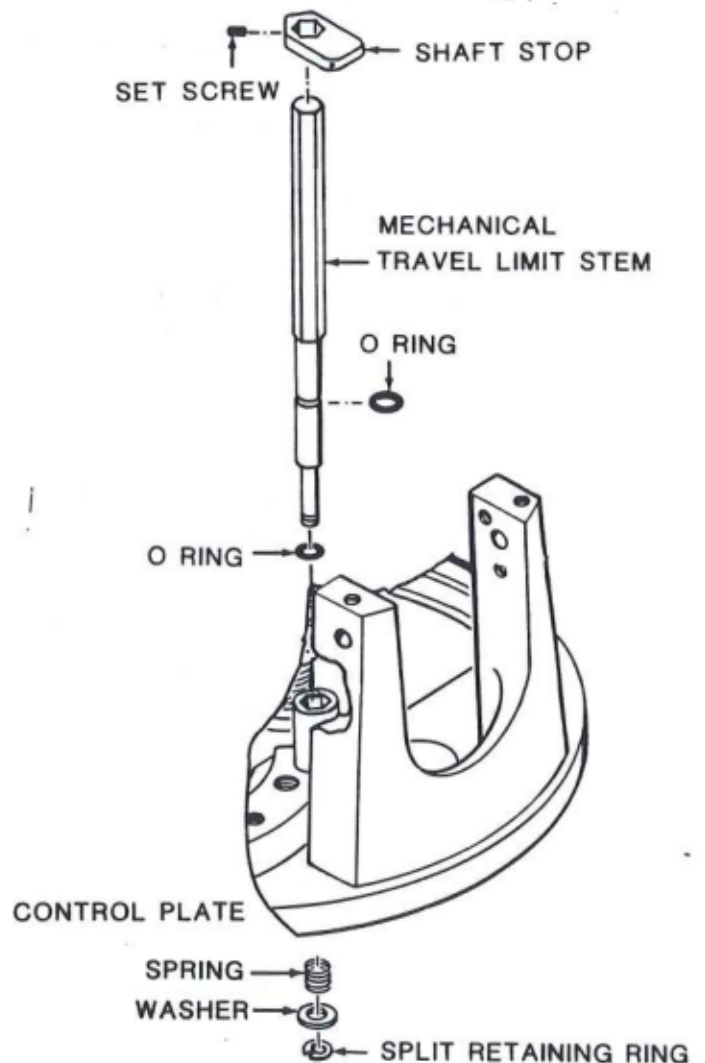

Figure 2-14. Mechanical Travel Limit Device
- 4). Remove the split retaining ring from the end of the mechanical travel limit stem (see Figure 2-14).
- 2). Install two new O-rings onto the mechanical travel limit stem (see Figure 2-14). Insert the stem into its receptacle on the control plate. Fit the spring and brass washer onto the stem from the bottom of the control plate and secure with the split retaining ring.
- 3). Carefully install the large control plate O-ring (2) in the groove at the top of the housing.
- 4). Place the four small O-rings (3) in the housing bolt holes. Do not get oil on this large O-ring or the four small O-rings (giving the appearance of a leak).
- 6). Install the control plate (606) and secure it with four 1/4" hex head cap screws (605).
- 8). Insert a small wire up from the electrical compartment through the small mA force coil wire hole at Terminal Block No. 3 (633). Form a small hook on the end of the wire, then pull the black and white mA wires down through the hole. Before disconnecting the hook, slip the black sleeving\* over the wires and push it up into the housing. Disconnect the hooked wire.